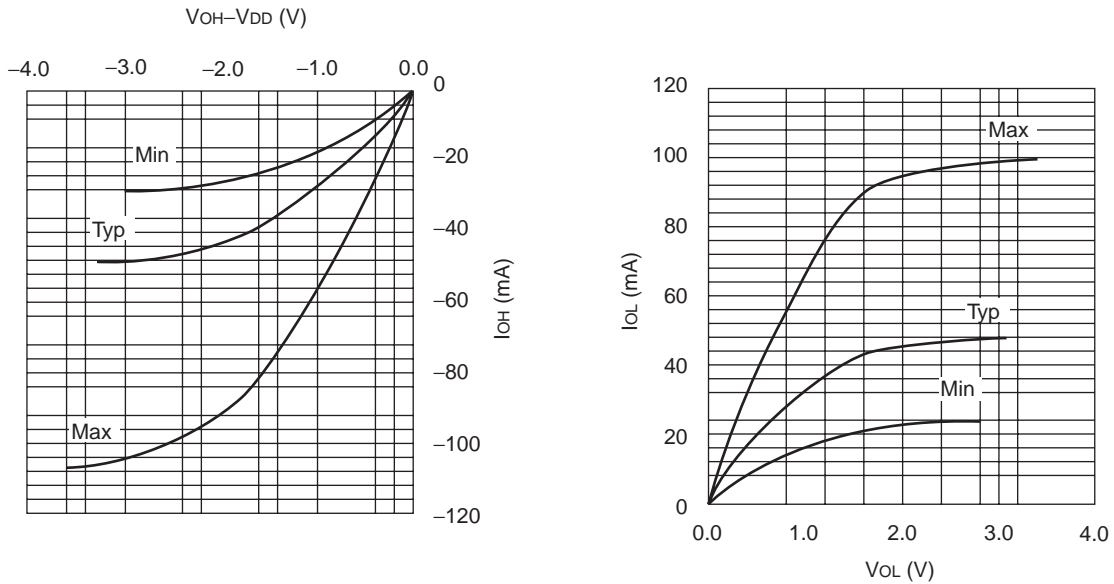
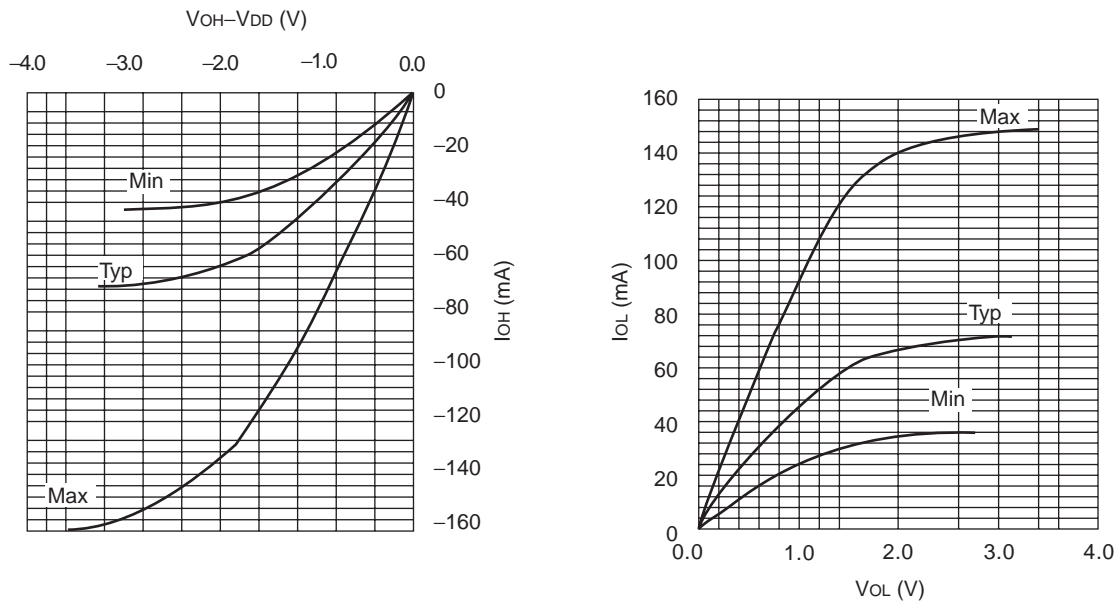

Fig.1 V-I characteristics (3.3 V normal I/O L, M type)
Fig.2 V-I characteristics (3.3 V normal I/O H, V type)
*2 : Refer to the “• V-I Characteristics” Fig. 1, Fig. 2.